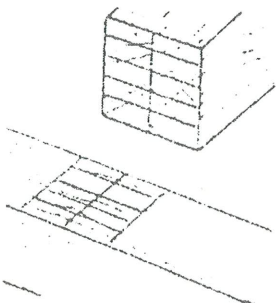

Fig.32
2. Make center of slot and slot locations on both boards. Be sure the marks on both boards match (Fig.32)(Hint: Snap a chalk line on one set of marks, press the other board on top of it to impression, then remark with pencil) Then set the biscuit depth